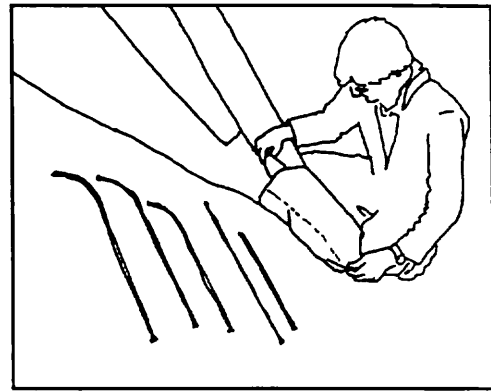

Figure 25
18) Remove the wingtip protector bags, and remove the plastic wingtip fairings from inside the bags. (Figure 25) Install the last three curved battens on each side.